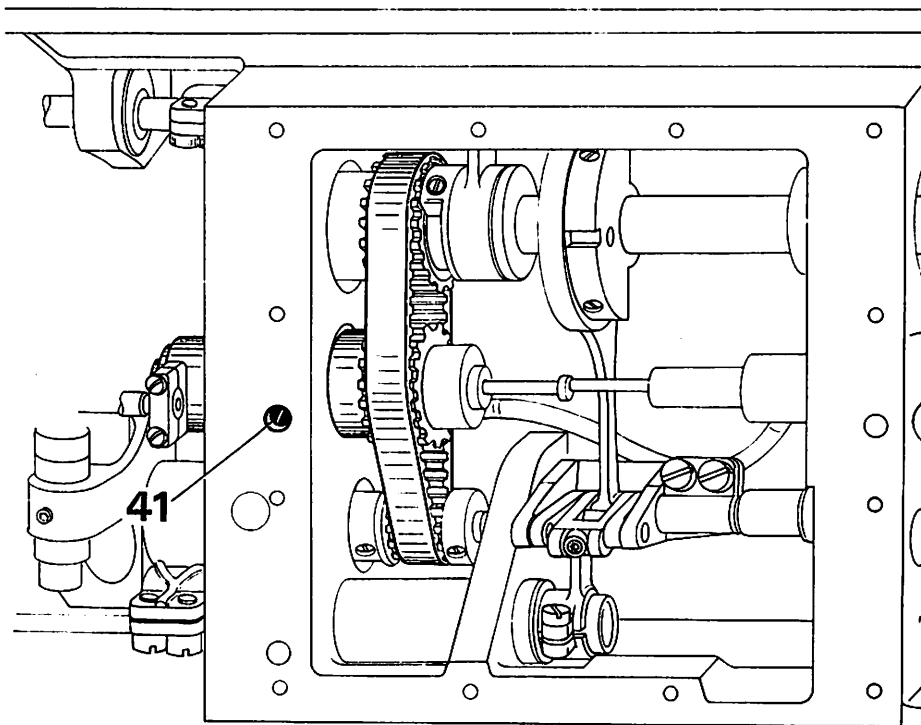

Fig. 20
18. Tensioning the Driving Belt in the Gear Case (Fig. 20)